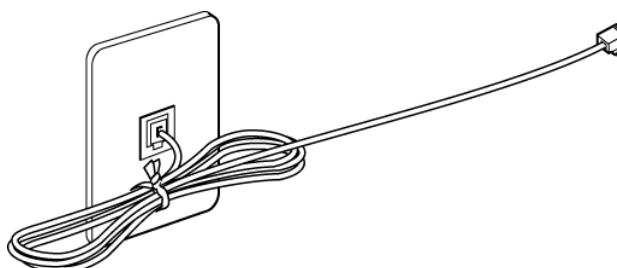

Figure 4-23: Bundling the Line Cord
3. Plug line cord in the wall receptacle. Leave about 8 inches of cord and bundle the rest as shown in *Figure 4-23: Bundling the Line Cord*.
1. Plug line cord in the wall receptacle. Leave about 200mm of cord and bundle the rest as shown in *Figure 4-23: Bundling the Line Cord*.